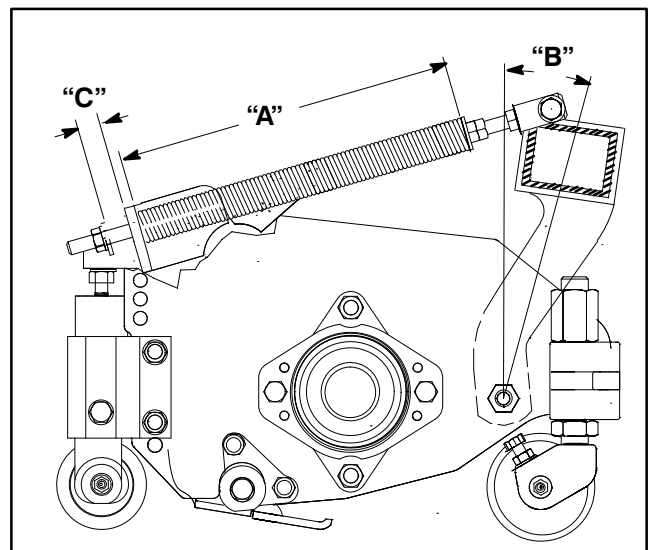

Figure 8
15. Tighten lock nut on rear of spring rod until the gap (C) between rear of spring bracket and front of washer is 1/2" (Fig. 8).
16. Tighten the (2) hex nuts on front end of spring rod until the compressed length (A) of spring is 8" (Fig. 8).